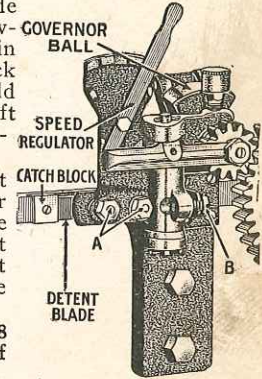

Figure 3.
**Third.** Turn the flywheels to the right until the detent blade (Figure 3) on the governor can be pushed in behind the catch block on the cam rod and hold it there with your left hand. Position of blade is different on 1½ horse-power, but it works the same.